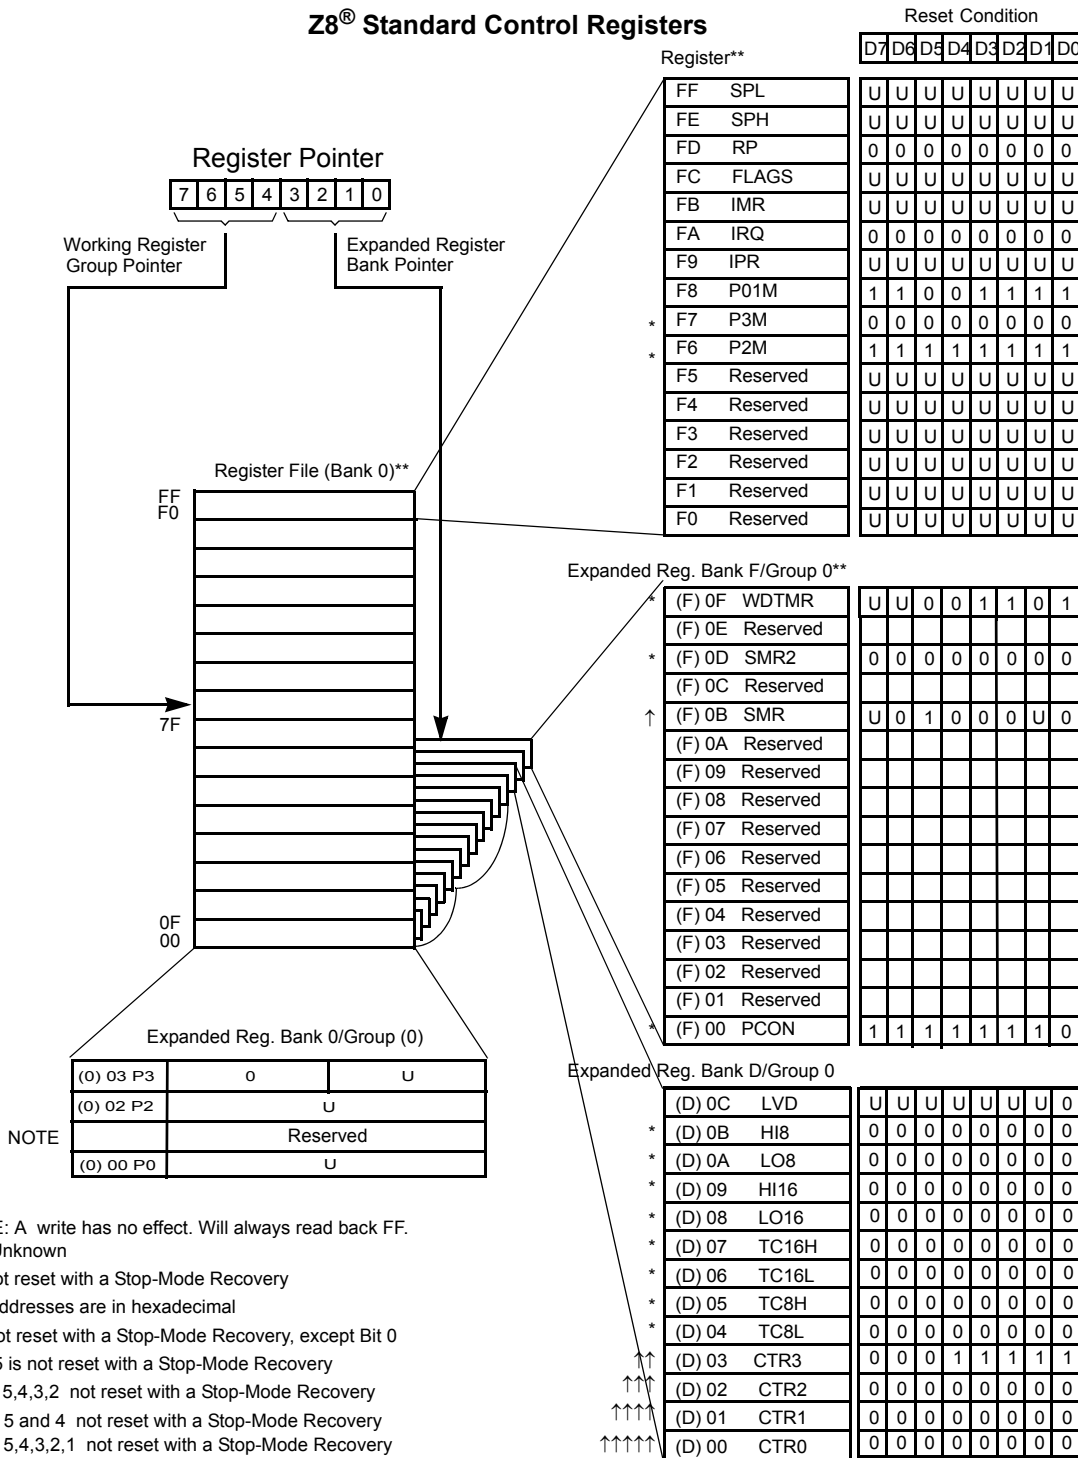

Figure 12. Expanded Register File Architecture
- ▶ **Note:** An expanded register bank is also referred to as an expanded register group (see Figure 12).
Example: (See Figure 12 on page 21)